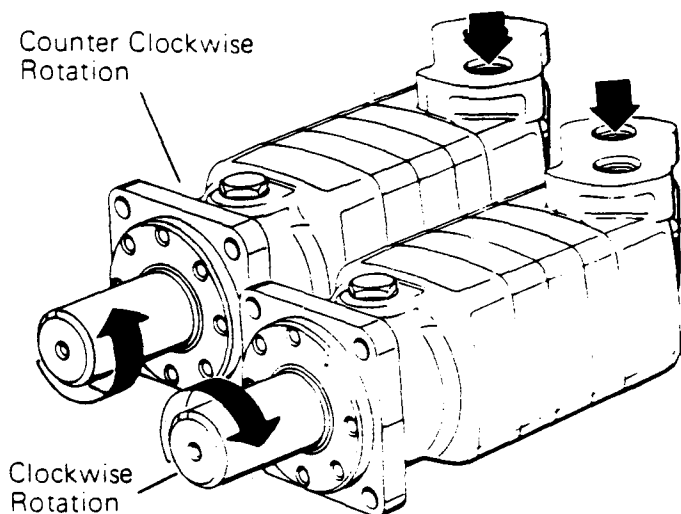

Figure 18
**Timing Step # 3**—Locate any one of the side openings of the valve that goes through to the face of the valve. Line up this side opening with the open slot of the valve plate that is in line with the largest open pocket of the Geroler. Rotate the valve clockwise until the spline teeth engage (1 spline tooth), see Fig. 17. This will provide the rotation shown when pressurized as shown, see Fig. 18.